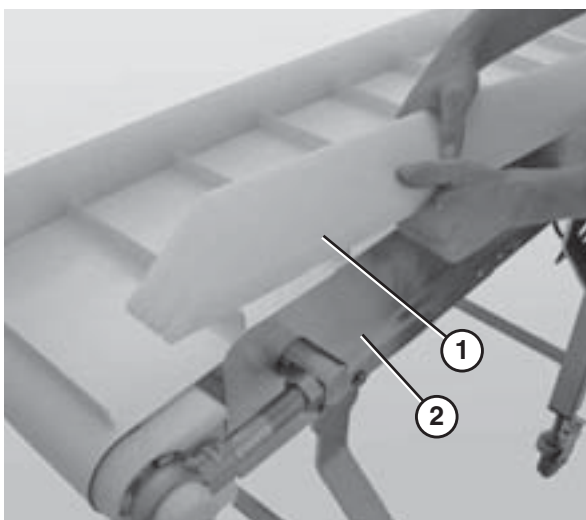

Figure 35
1. Position the guide (Figure 35, item 1) so that the flat surface is facing the belt and then slide the guide onto the frame rail (Figure 35, item 2).